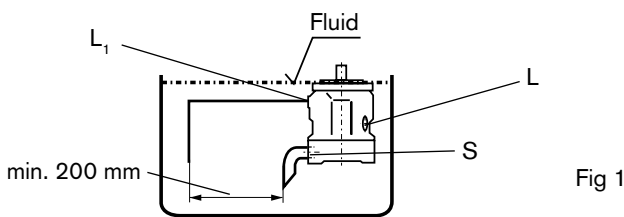

Fig 1
- a) If the min. fluid level is equal to or above the pump mounting face: plug port „L“ , „L₁“ and „S“ open; it is recommended to pipe „L₁“ and connect a suction pipe to „S“ (see fig. 1).